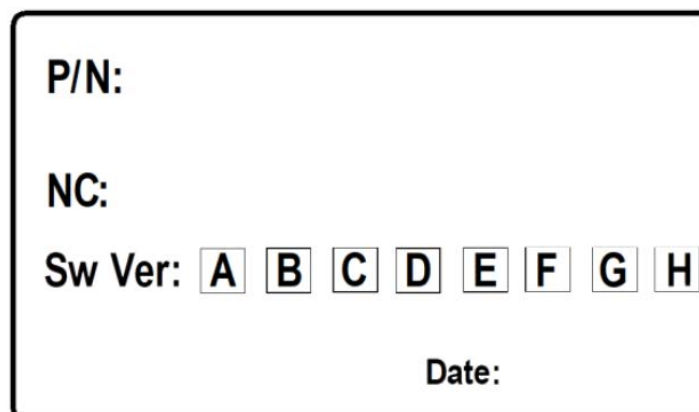

Figure 2-6 Label – for reference only
- o. Mark "A" as software IFEEL revision on the label located on IFEEL side (ref to Figure 2-6) with a permanent marker.